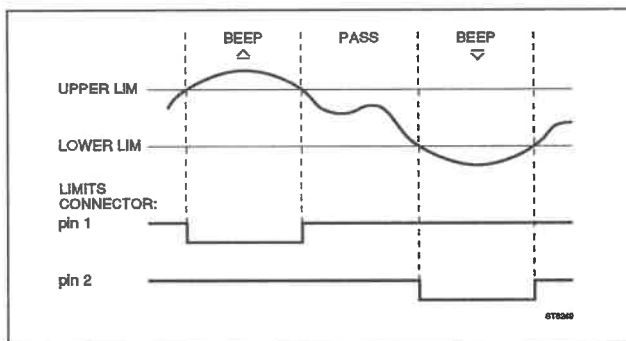
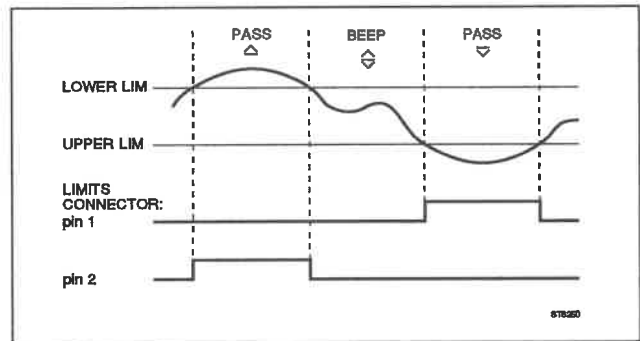

Fig. 4.59 UPPER LIMIT > LOWER LIMIT.
Fig. 4.60 LOWER LIMIT > UPPER LIMIT.
- the total number of passed readings. A reading is PASSED when it is within the UPPER and LOWER limit if the UPPER limit is above the LOWER limit. If the UPPER limit is below the LOWER limit, a reading is PASSED if it is not within the UPPER and LOWER limit. See also fig. 4.59 and 4.60.
Readings are processed values if one of the CALCULATION functions is active. Separate LIMIT COUNTER memories are available for each measurement function. They can be read using the OUTPUT function LIM-COUNT, see below. Fig. 4.59 and Fig. 4.60 below, show the output levels at the LIMITS connector.
SETTING THE LIMITS FUNCTION (FIG. 4.60)